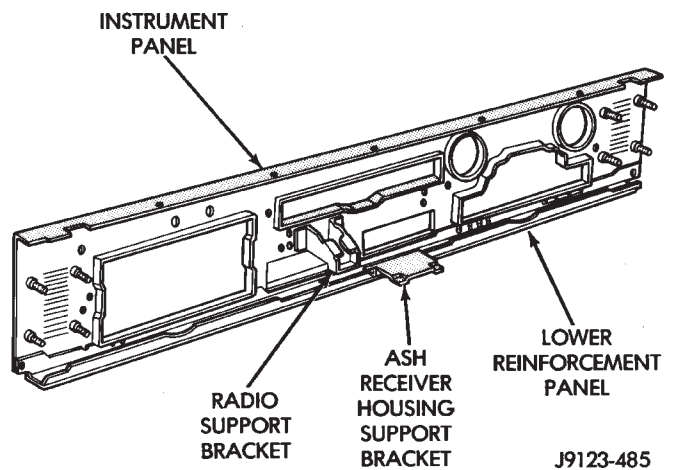

Fig. 18 Instrument Panel
- (3) Position the instrument panel on the dash panel and install the attaching screws (Figs. 18 and 14).
- (4) Install steering column in vehicle.